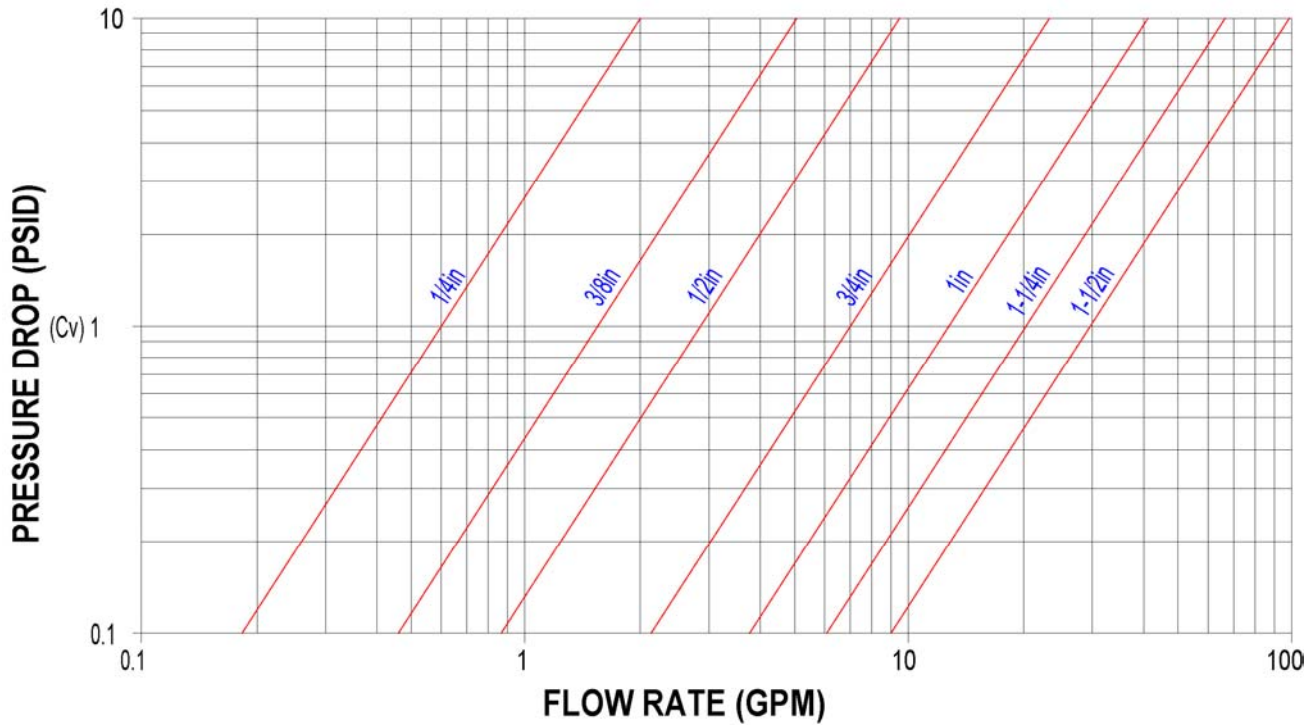

FIGURE 1
Multiply values obtained from Figure 1 and 2 by the appropriate values shown below
- Step 1 Using FIGURE 1 or 2 determine the pressure drop through the strainer with water flow and standard screens = (P1)
- Step 4 Using CHART 2 multiply P3 by the appropriate Component Factor (CF) = (P3 x CF = P4)
- Step 6 Multiply P4 by the appropriate Body Loss Factor (BF) in CHART 3 to get P6 = (P4 x BF = P6)